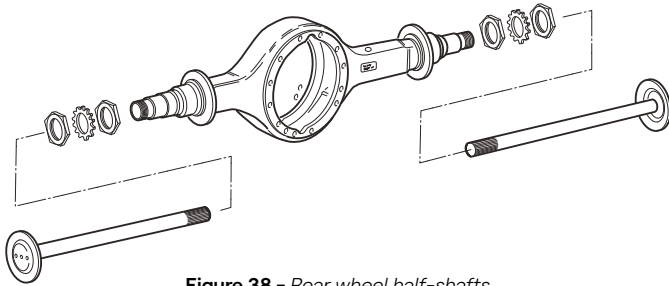

Figure 38 - Rear wheel half-shafts
8. Remove the rear wheel half-shafts (**Figure 38**).